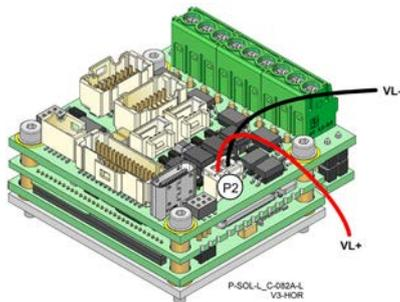
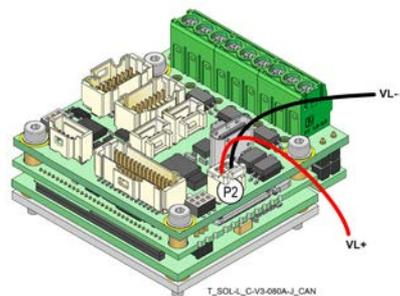
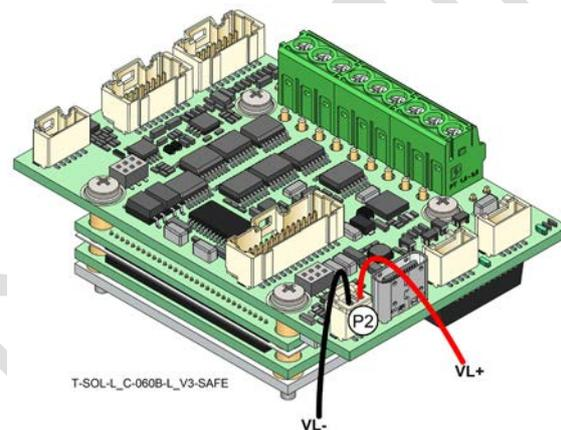

Figure 23: Connecting the Control Supply Wires for Safety Capabilities S and O – ECAT version
Figure 24: Connecting the Control Supply Wires for Safety Capability O – CAN version
Figure 25: Connecting the Control Supply Wires for Safety Capability F
3. Connect the VL+ and VL- wires to the terminals on the servo-drive as shown in **Figure 23**, **Figure 24**, and **Figure 25**.